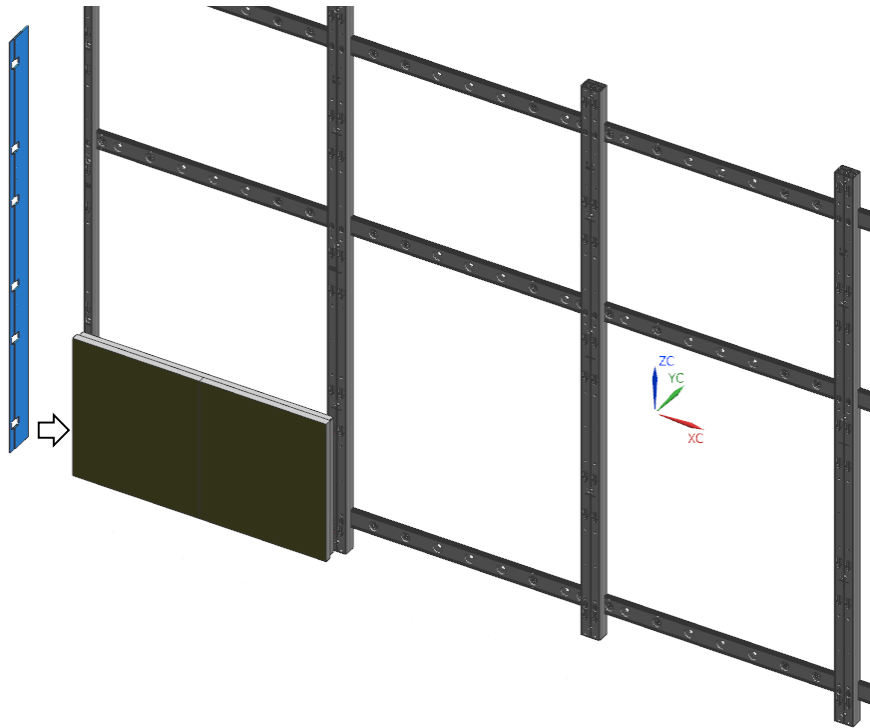

Fig.3-1 Cabinet Installation
④ After installing I/G, install Cabinets starting from one end of 1st floor. (Fig.3-1)